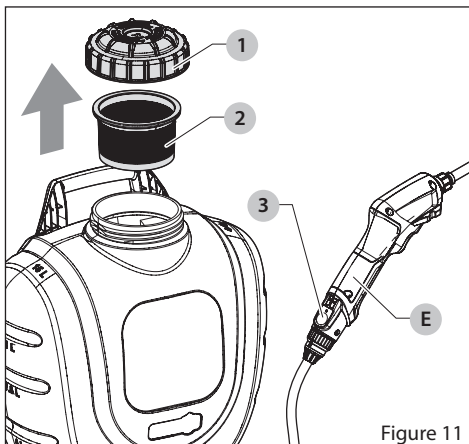

Figure 11
1. Ensure the power wand tool (E) is OFF and remove the power wand tool. See Figure 11.
2. Remove the cap (1) and the filter basket (2) and empty any extra chemical from the tank into a suitable container for later use or dispose according to the chemical manufacturer's instructions.
5. Reinstall the hose and power wand tool (E) and press the power button (3) to turn the sprayer ON.
11. Once the sprayer is dried, turn the sprayer upright and reinstall the cap (1) and filter basket (2) to prevent debris from entering the tank.